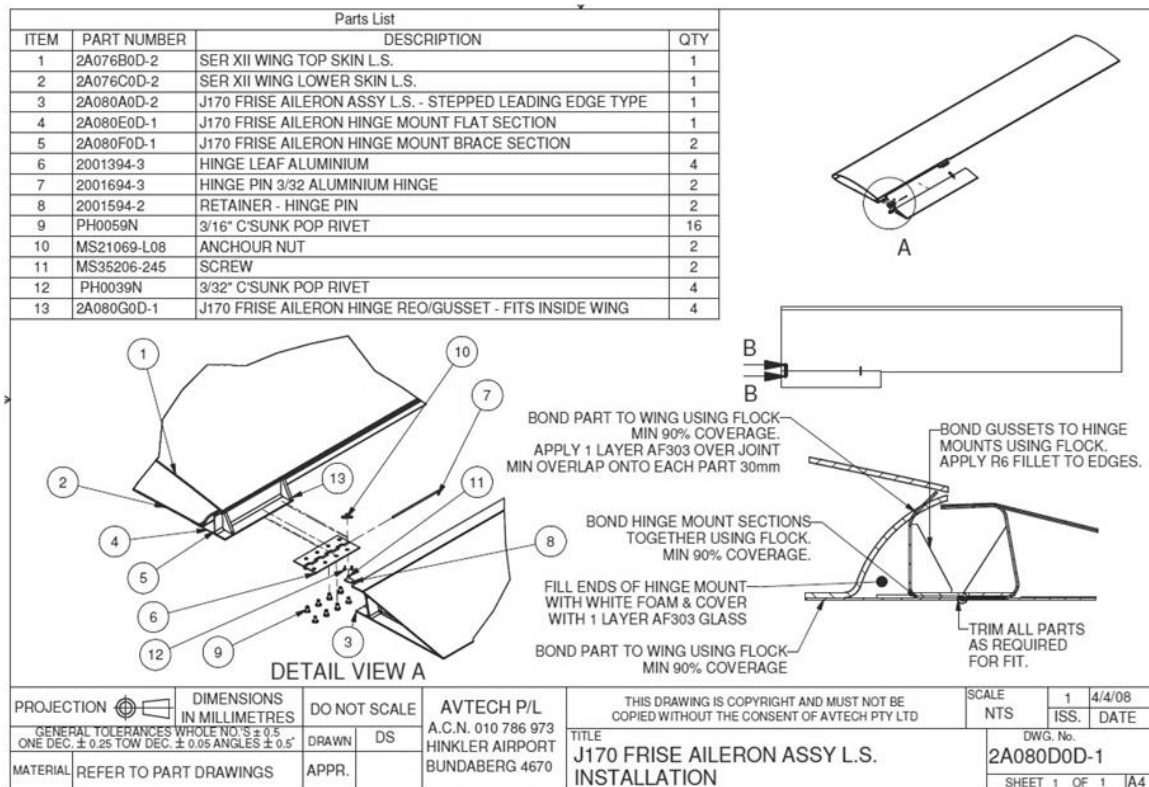

Figure 61 – J170 Friese Aileron Installation (J170)
- Some J170 Variants are fitted with Friese ailerons. For these aircraft, refer to Figure 61 for details of the aileron installation.